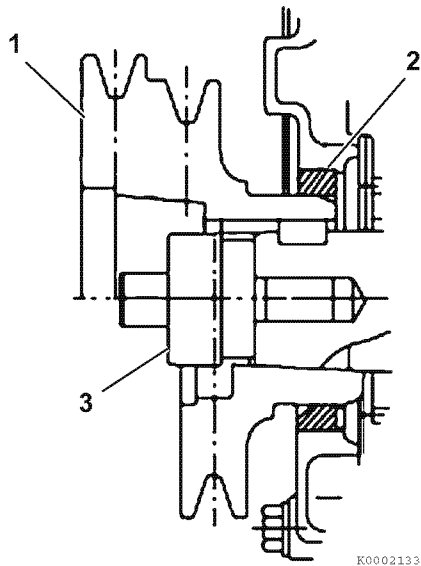

Figure 6-100
Use the crankshaft pulley installation tool (**Figure 6-100, (3)**) when reinstalling the pulley (**Figure 6-100, (1)**). The tool will guide the pulley hub and protect the front seal (**Figure 6-100, (2)**) from damage.